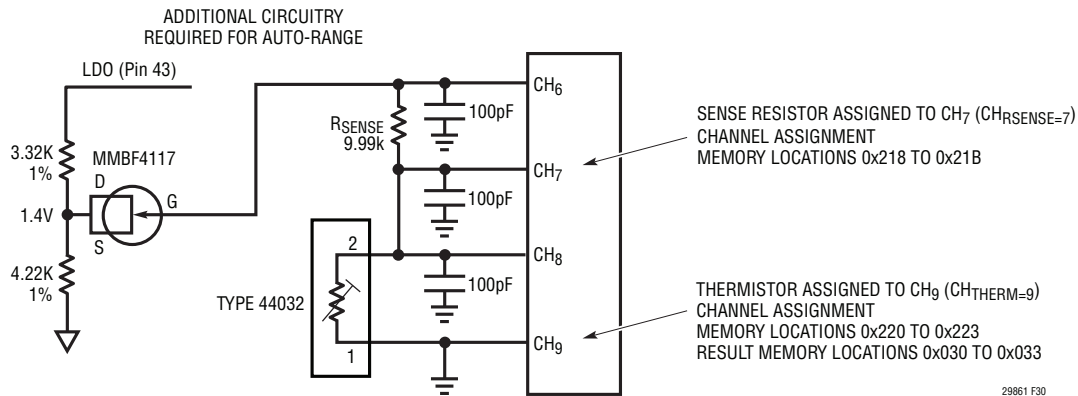

Figure 30. Differential Thermistor Example
*Additional Circuitry required for auto-range, see Figure 30 on page 56.
Figure 30 shows a typical temperature measurement system using a differential thermistor. In this example a 30k Ω (44032 type) thermistor is tied to a 9.99k Ω sense resistor. The thermistor is assigned channel CH9 (memory locations 0x220 to 0x223) and the sense resistor to CH7 (memory locations 0x218 to 0x21B). Channel assignment data is shown in Table 62 and Table 63).
Note 1: Additional Circuitry required for thermistors using auto-range. See Figure 30.